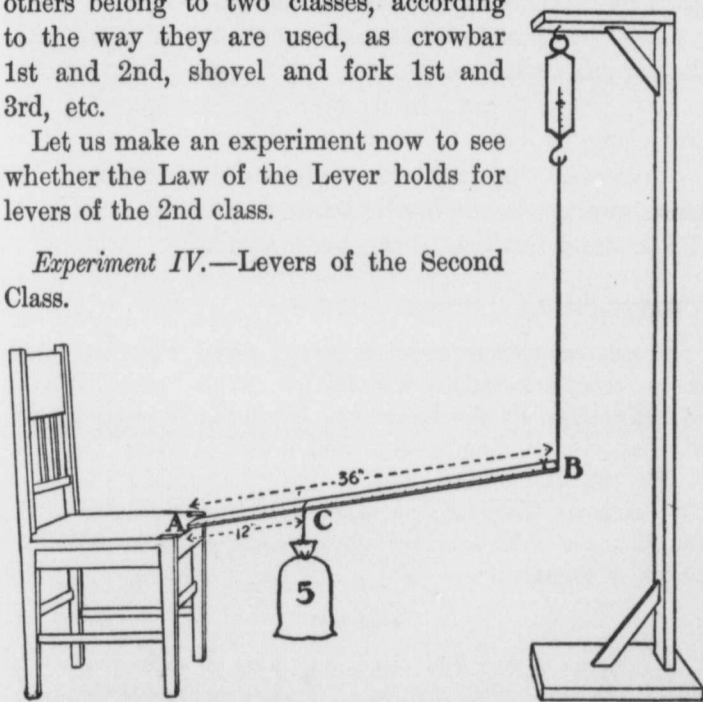

Fig. 6. Apparatus: Yard Stick, Spring Balance, Weight, Support.
1. A lever of the 2nd class, 3 ft. long, is arranged, as in Fig. 6. It takes $\frac{1}{4}$ lb. of force to support one end of the stick alone. What total force will be necessary at B to support 12 lbs. placed 1 ft. from the fulcrum ?
4. A crowbar, 5 ft. long, is arranged, as in Fig. 6. It takes 6 lbs. of force to support one end when there is no weight